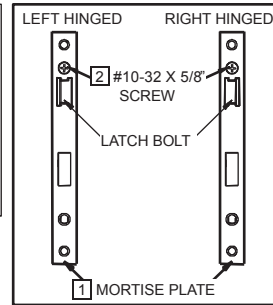

FIGURE 3
**B.** If the bolt orientation of the mortise plate and latch assembly matches your door go to **Step C**. If the bolt orientation is incorrect for your door, remove the #10-32 x 5/8 flat head screw and mortise plate. Rotate the latch bolt 1/2 turn (180 degrees) and reattach mortise plate to latch assembly. See Fig. 3.